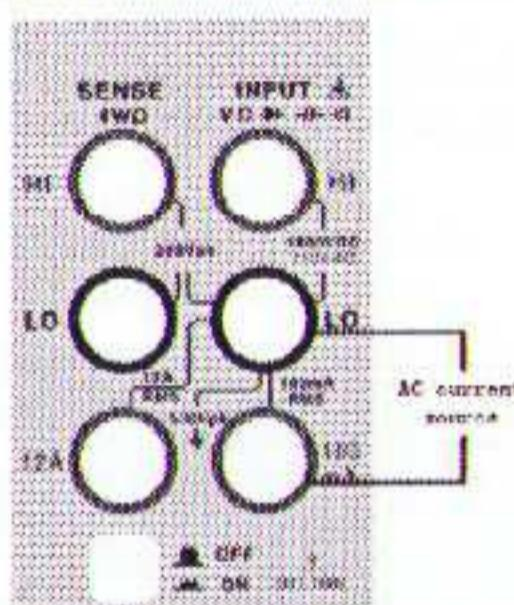

Figure 4-9 Wiring method for low current measurement
2. Choose different test terminals according to the measurement level. See Figure 4-9 for current of 200mA and below, and connect the red and black test leads respectively to the proper input terminals. See Figure 4-10 for current from 200mA to 10A, and connect the red and black test leads respectively to the proper input terminals.